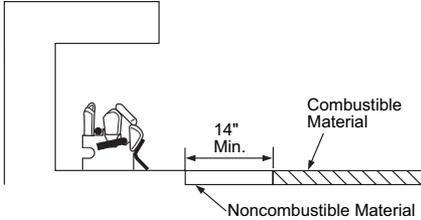

Figure 7 - Minimum Fireplace Clearances If Installed at Floor Level
- A. If installing appliance on floor level, you must maintain the minimum distance of 14" to combustibles (see Figure 7).